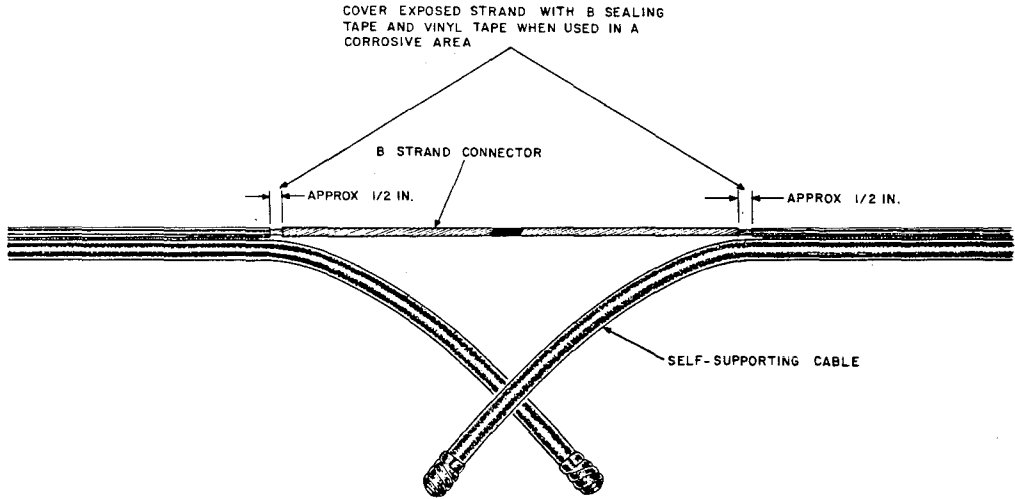

Fig. 9—B Strand Connector Installed on Self-Supporting Cable
4.07 A B Strand Connector installed on self-supporting cable is shown in Fig. 9.